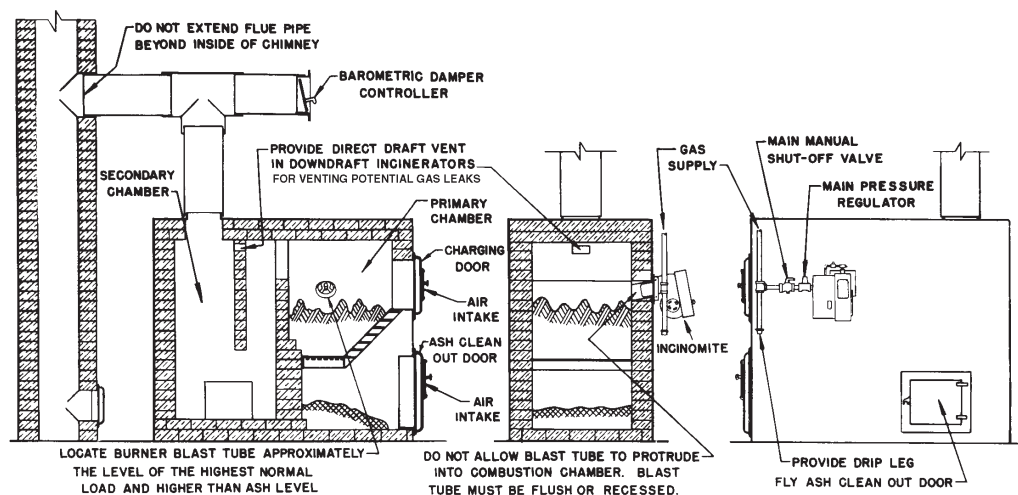

Figure 1 Typical Installation
⚠ CAUTION: If the incinerator is of the down draft design, make sure that a direct draft vent opening of approximately 10 square inches has been put through the top of the drop section(s) to provide for the venting of any gas leakage. See Figure 1.
- A suitable Main Gas Pressure Regulator should be installed as shown in Figure 1. Choose a regulator(s) to adjust the available gas pressure to the pressure shown in SPECIFICATIONS, page 2.